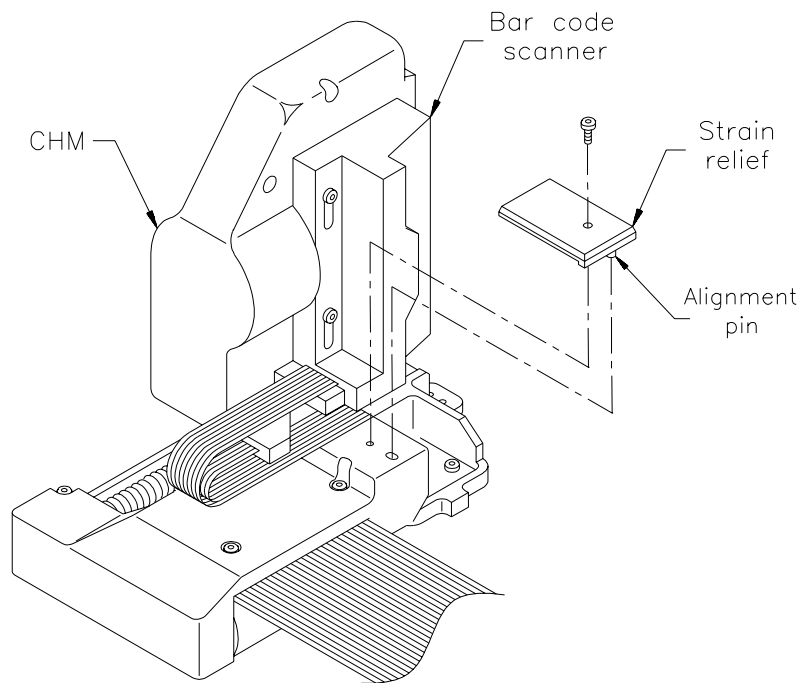

Figure 4 Removing the strain relief
1. If you have not already done so, use a T-10 TORX screwdriver to remove the single screw from the strain relief, shown in Figure 4.